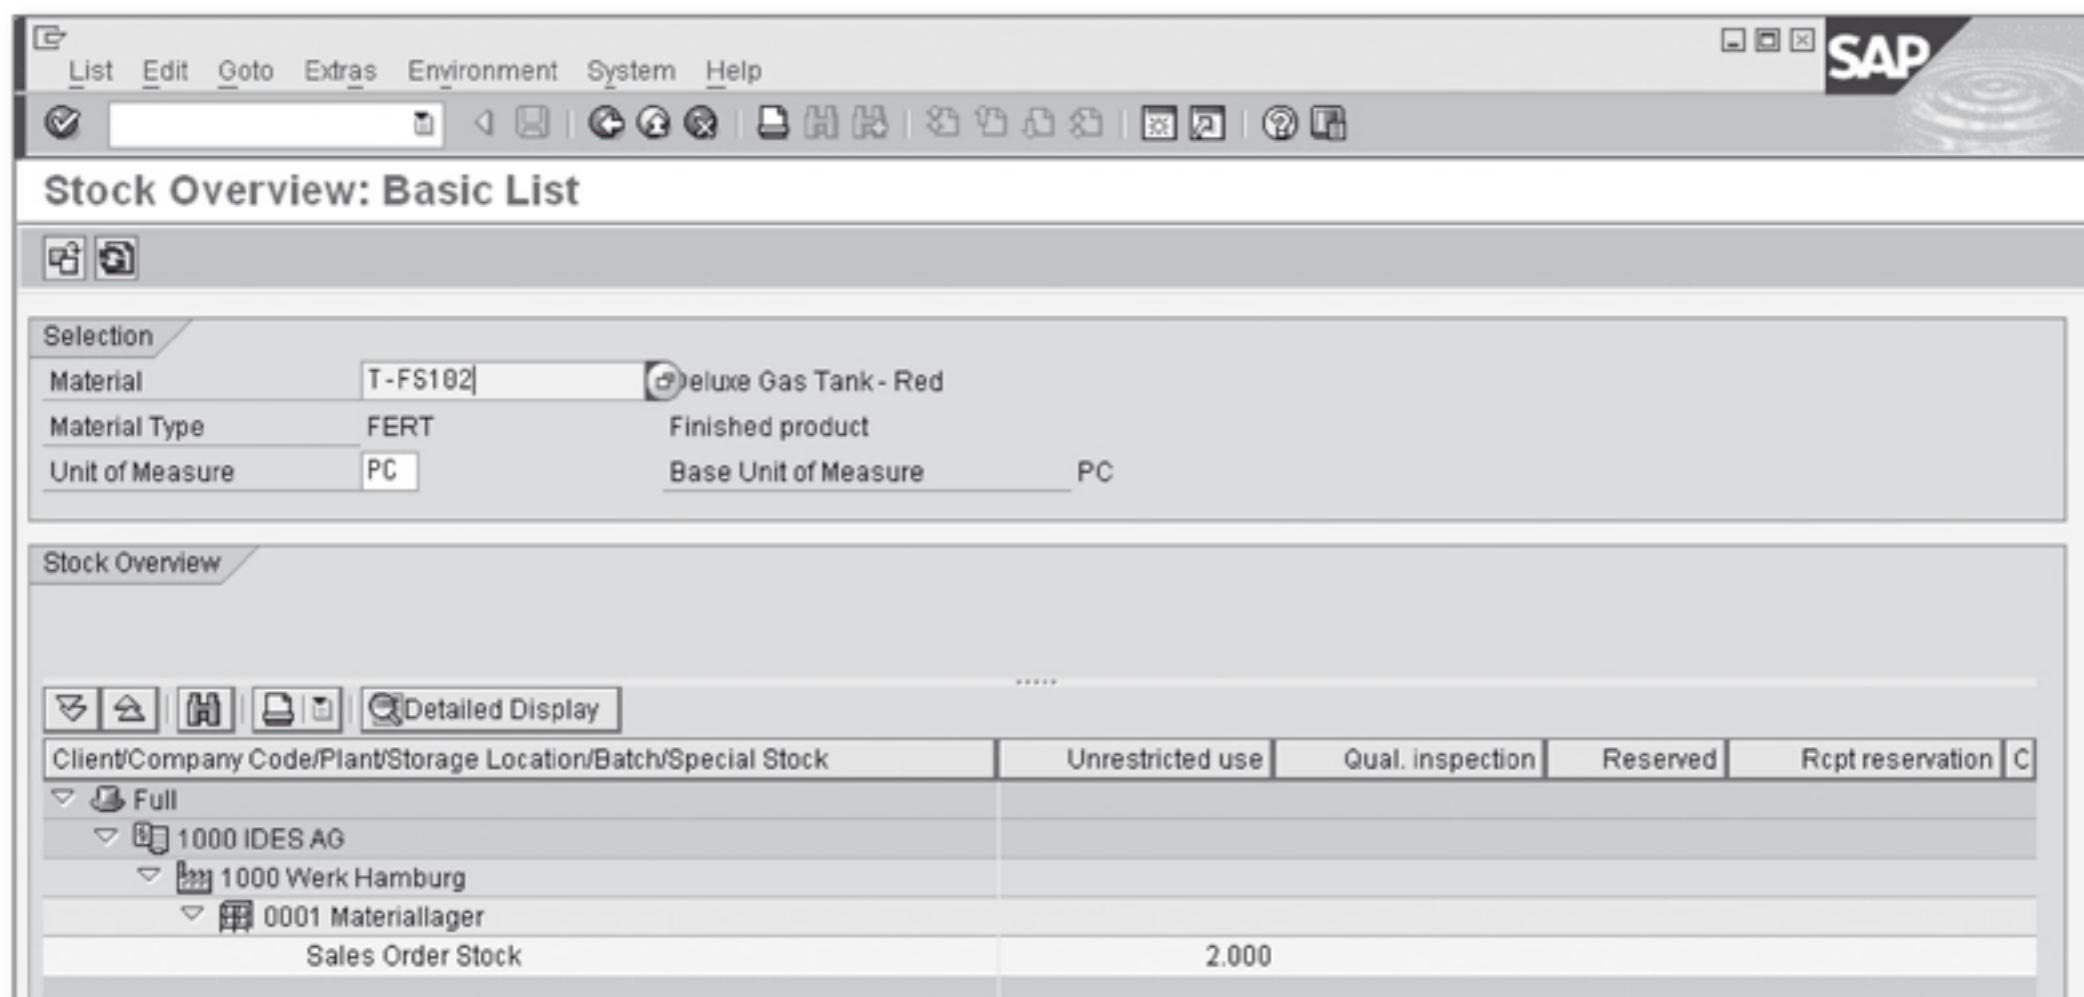

Figure 3.75 Stock Overview After Goods Receipt from Production
10. Figure 3.75 shows Transaction MMBE - Stock Overview, which displays the sales order quantity that you just received from the production order. You can also get to this transaction by using the following menu path: LOGISTICS • MATERIALS MANAGEMENT • INVENTORY MANAGEMENT • ENVIRONMENT • STOCK • STOCK OVERVIEW.